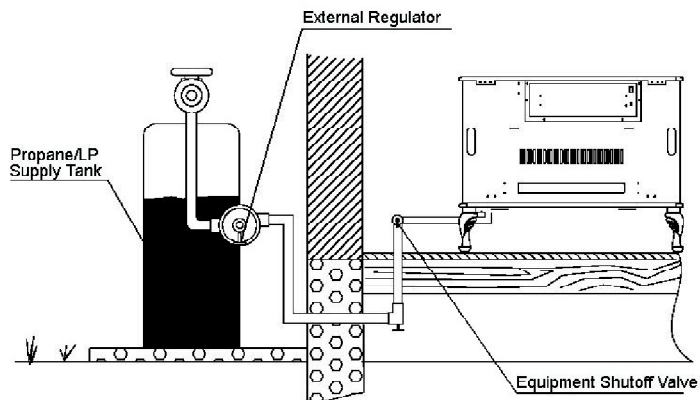

Figure 9.1 - Checking Gas Joints
4. Check all joints from equipment shutoff valve to control valve (LP GAS see Figure 9.1 NATURAL GAS see Figure 9.2). Apply mixture of liquid soap and water to gas joints. Bubbles forming show a leak.